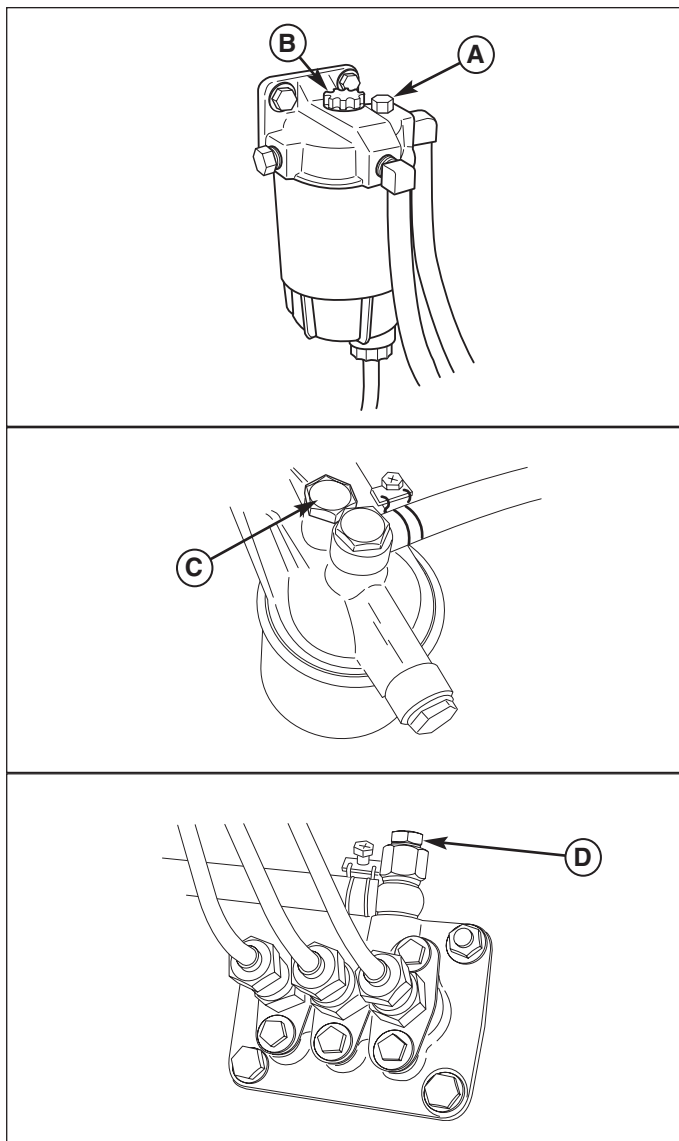

Figure 3. Fuel System Priming
2. Unscrew the priming hand pump (B, Figure 3) located on top of the water separator. Operate the hand pump up and down until fuel that is free of air flows from the vent.